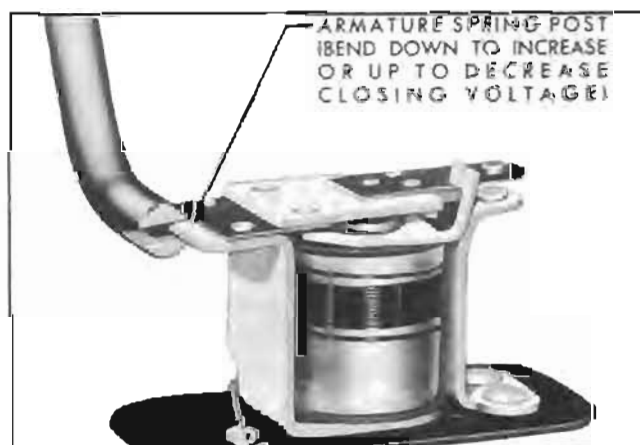

Figure 10-51—Relay Closing Voltage Adjustment
5. Slowly adjust rheostat to increase voltage until contact points close and note voltage. Closing voltage should be between 1.3 and 1.6 volts. If not within these limits, bend armature spring post down to increase spring tension and closing voltage, or bend up to decrease voltage. See figure 10-51. Recheck closing voltage after each adjustment.